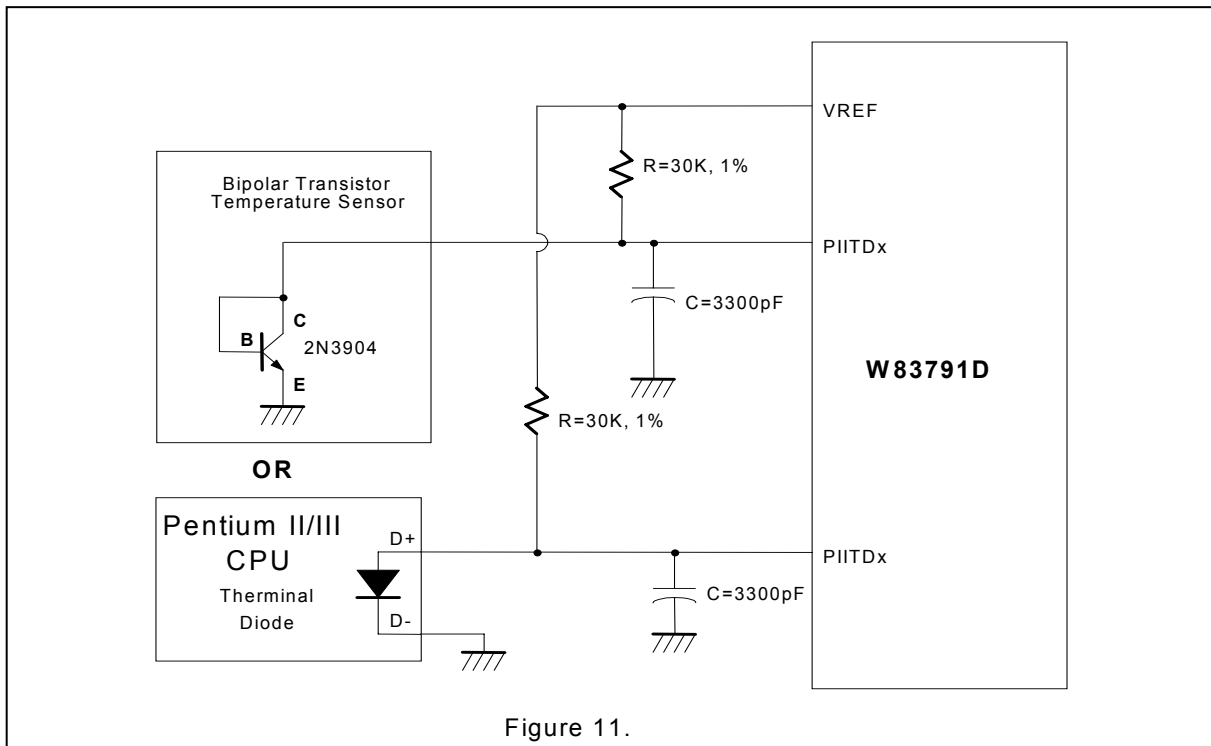

Figure 11.
The negative voltage should be connected to two series resistors and a positive voltage VREF (equal to 3.6V). In the Figure 11, the voltage V3 and V4 are two negative voltages and are -12V and -5V respectively. The voltage V3 is connected to two serial resistors as well as another positive terminal VREF. Therefore, the voltage node N12VIN would be a positive voltage if the scale of the two serial resistors are carefully selected. It is recommended from Winbond that the scale of the two serial resistors are R5=232K ohms and R6=56K ohm. The input voltage of node -12VIN can be calculated by the following equation.
The W83791D/G can connect three thermistors to measure three different environmental temperatures. The specification of thermistor should be considered to (1) β value is 3435K, (2) resistor value is 10K ohms at 25°C. In the Figure 11, the themistor is connected by a serial resistor with 10K Ohms (1% error), then connect to VREF (Pin 37).
The W83791D/G can alternate the thermistor to Pentium II/III™ thermal diode interface or transistor 2N3904 and the circuit connection is shown as Figure 11. The pin of Pentium II/III™ D- is connected to power supply ground (GND) and the pin D+ is connected to pin PIITDx in the W83791D/G. The resistor R=30K ohms should be connected to VREF to supply the diode bias current and the bypass capacitor C=3300pF should be added to filter the high frequency noise. The transistor 2N3904 should be connected to a form with a diode, that is, the Base (B) and Collector (C) in the 2N3904 should be tied together to act as a thermal diode.